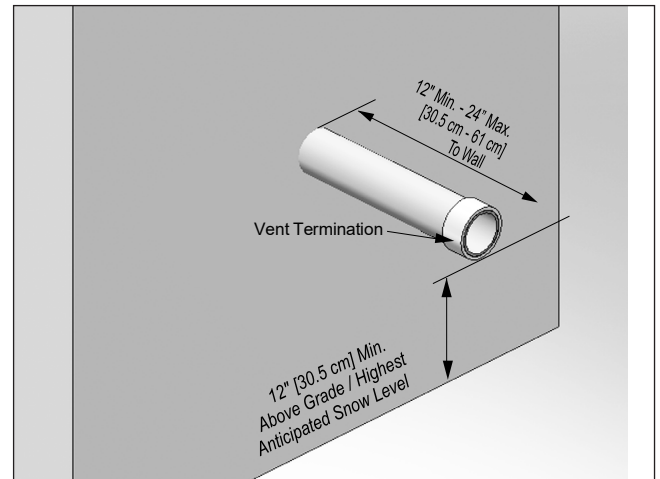

Fig. 18 - Category IV - Sidewall Termination of Vent Pipe
- Using a coupling as shown in *Fig. 18*.
- Using a coupling as shown in Fig. 18 on page 27.